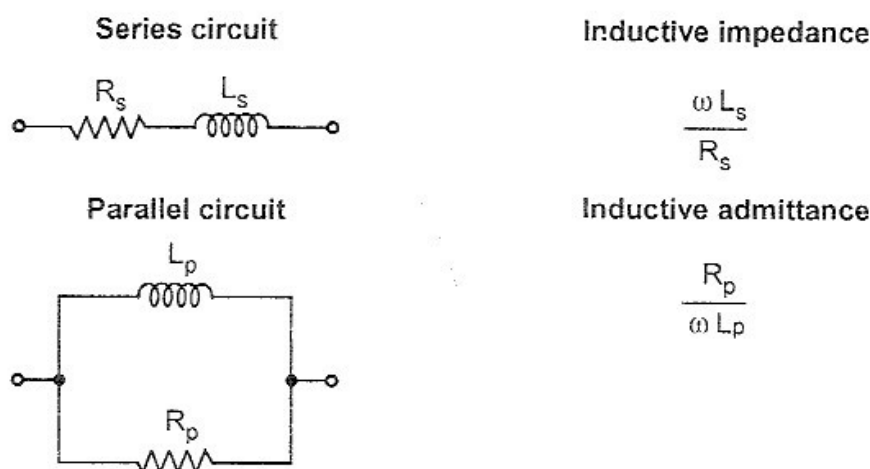

Fig. 3.4 Quality factor equations
Quality factor (Q) is important characteristics of an inductor. The Q is the ratio of reactance to resistance and therefore it is unitless. It is the measure of how 'pure' or 'real' an inductor is (i.e. the inductor contains only reactance). The higher the Q of an inductor the fewer losses there are in the inductor. The Q factor also can be defined as the measure of efficiency with which inductor can store the energy. The **dissipation factor (D)** that can be referred to as the total loss within a component is defined as $1/Q$. The Fig. 3.4 shows the quality factor equations for series and parallel circuits and its relation with dissipation factor.